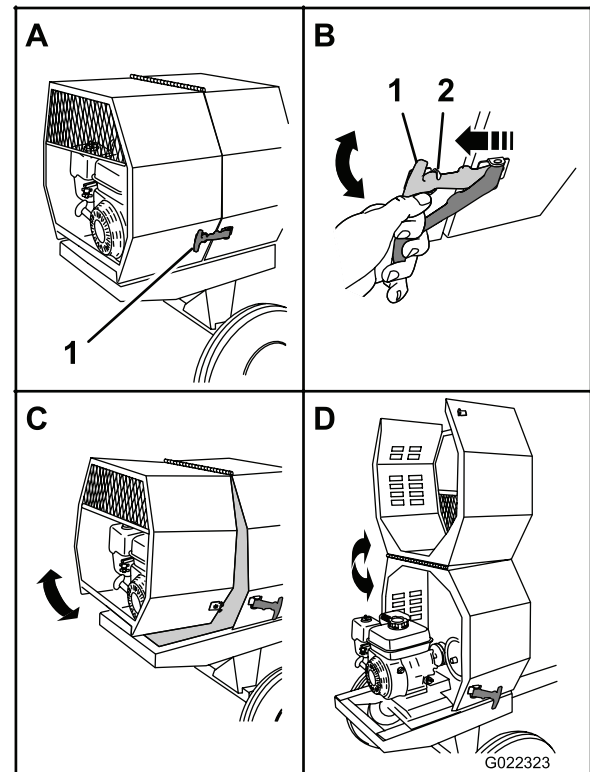

Figure 24
1. At the side of the machine where the front cowl and rear cowl meet, grasp the latch and pull it off from the latch anchor on the rear cowl (Figure 24).
3. Rotate the rear cowl up and forward until it is fully positioned on top of the front cowl (Figure 24).
1. Rotate the rear cowl rearward and down until the receiver at the bottom center of the cowl is flush on the frame of the machine (Figure 24).
3. Repeat step 2 at the opposite side of the machine (Figure 24).